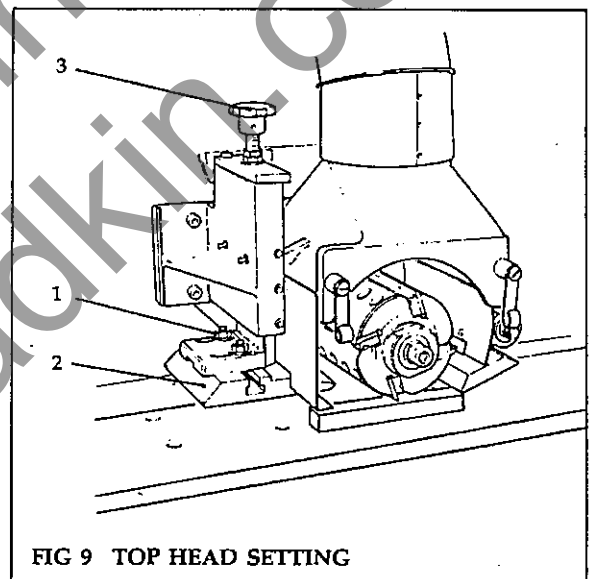
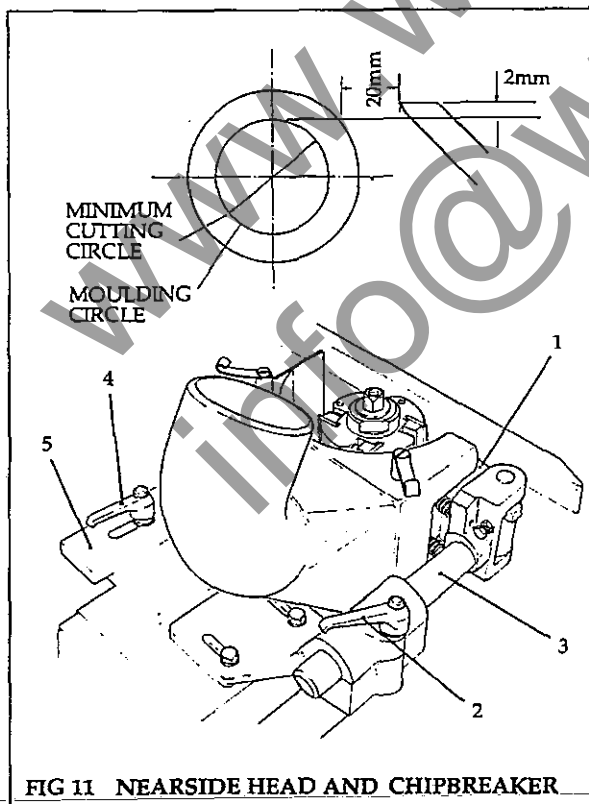

FIG 9 TOP HEAD SETTING
FIG 11 NEARSIDE HEAD AND CHIPBREAKER
**Check/Adjust at Top Head (Fig 9)**
- (1) Inch timber through spindle and stop prior to side heads.
- (2) If necessary, reset pressure pad after top head as follows:
- a. Loosen the two screws (1) then slide pad (2) laterally.
- (3) Adjust pad pressure to timber thickness using starwheel (3).
- (4) Restart and feed timber through machine. Check chipbreaker settings.
**NOTE:** The chipbreaker setting is identical to that described for Near Side Head (Fig 11), except for location of adjustment and locking features, which are shown on Fig 9.
**Check/Adjust at Near Side Head (Fig 11)**
- (1) Check the setting of the chipbreaker (1) adjacent to the near side head. Reset if necessary, using locking handle (2) to release slide bar (3). Retighten locking handle (2).